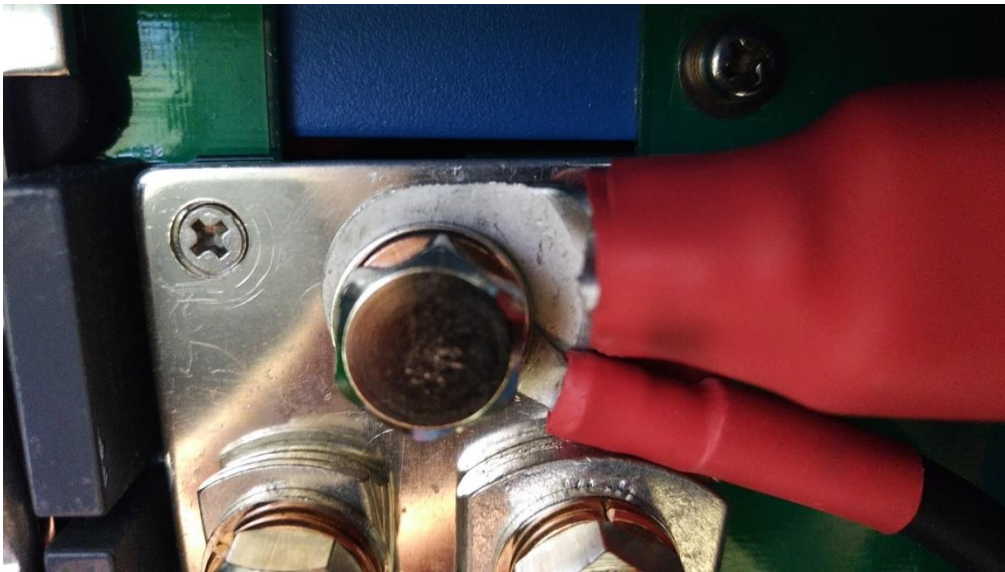

Figure 7: Close-up view upper screw of inverter plus side
- b. Lead in the new wire(s) (see fig. 7)